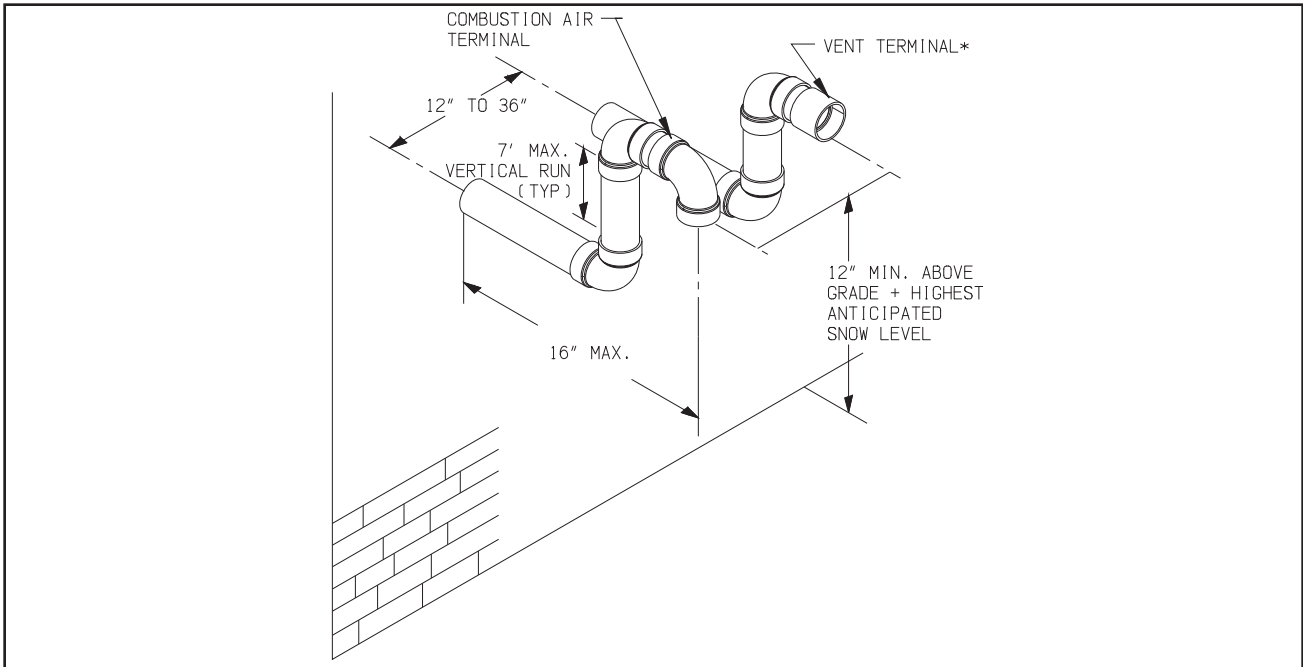

FIGURE 7.11: SNORKEL TERMINAL CONFIGURATION (CPVC/PVC VENT SYSTEMS ONLY)
If necessary to achieve required clearance above grade, CPVC or CPVC/PVC vent systems may be terminated using fittings on snorkels as shown in Figure 7.11. When this is done, the equivalent length of all pipe on the exterior of the building, except for the terminal fittings themselves, must be counted when calculating the equivalent length. The maximum vertical run of the snorkel is 7 feet. Brace both the vent and inlet piping if required. Polypro and InnoFlue may not be snorkeled.
6. Horizontal Vent and Air Intake Terminal Location - Observe the following limitations on the vent terminal location (also see Figure 7.11). When locating a concentric terminal, observe the limitations outlined below for “vent terminals”.